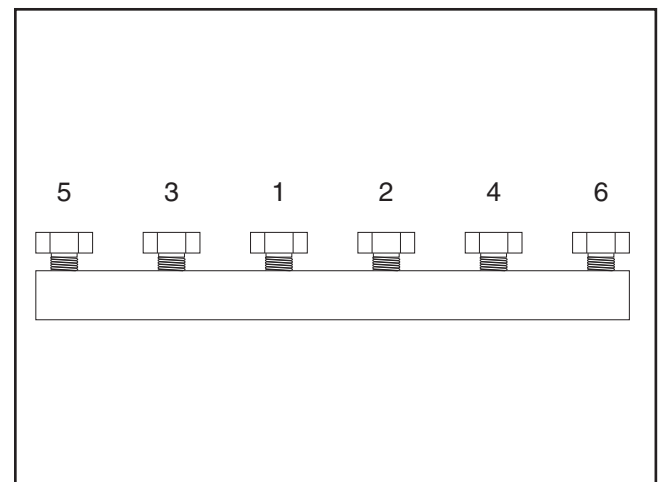

Figure 20. Gib bolt tightening sequence (moulding knives).
8. Tighten the gib bolts in the order indicated in **Figure 20**.